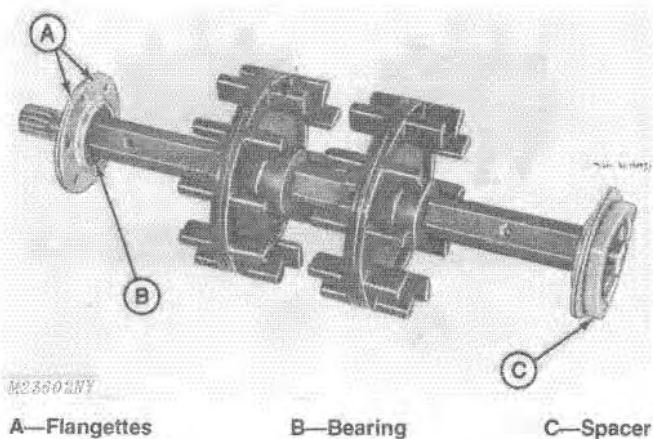

Fig. 16-Assembling Drive Shaft and Bearings
1. Assemble bearing flangettes (A), bearing (B) and spacer (C) on drive shaft, Fig. 16.